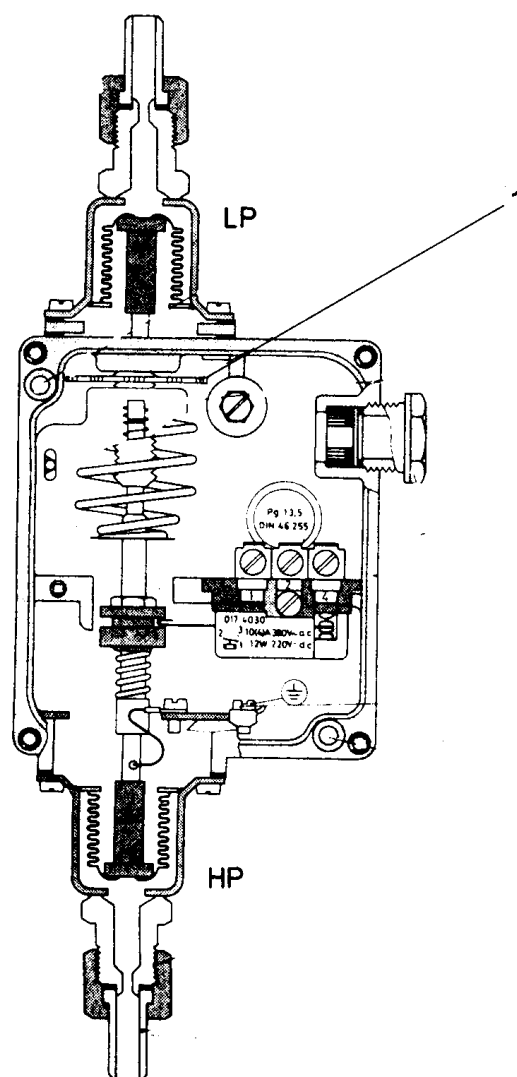

Fig. 6
2.6 PRESOSTAT DIFERENTIAL DANFOSS RT 262 A (Fig. 6)